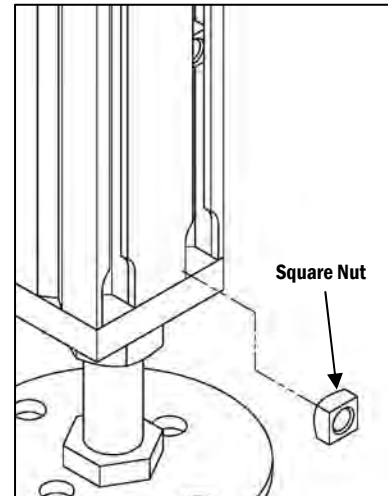

Figure 1
a. Start by inserting the square nuts in the stand leg's channel at the base where the channel has been routed (Figure 1).